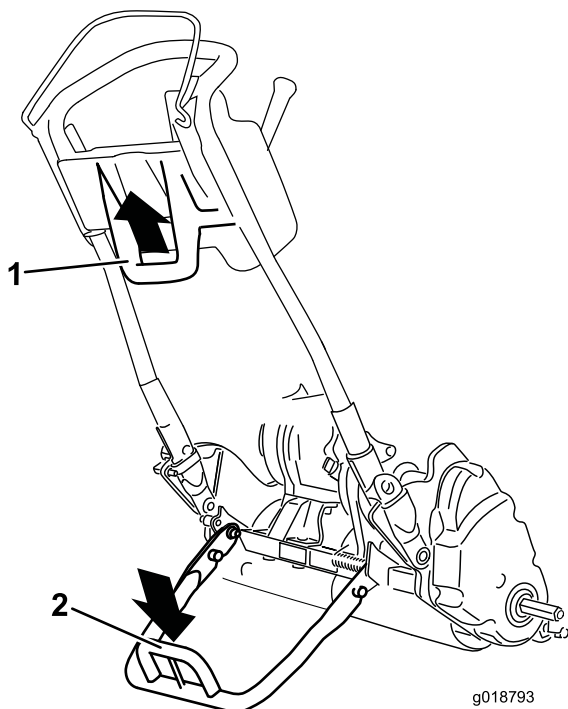

Figure 19
- To use the kickstand to install the transport wheels, lower it to the ground and step down on the kickstand loop while pulling up and back on the lower center machine handle (Figure 19).